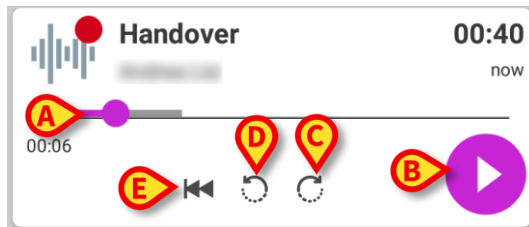
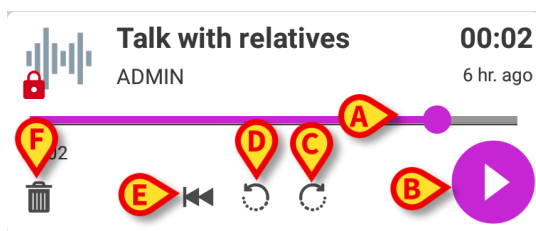
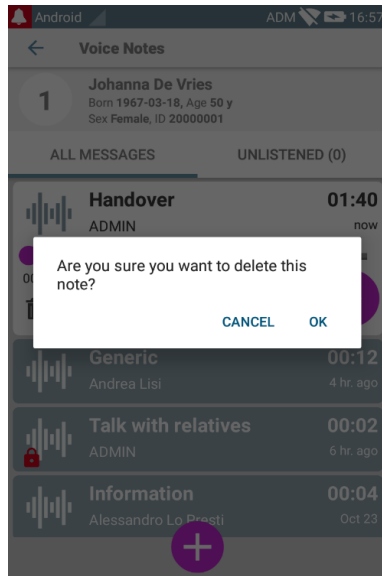

Fig 93 – unlistened voice message
Fig 94 - private message, deletable by the author
Fig 95
The tile expands to show the audio player control buttons (Fig 93 and Fig 94).
- seekbar (Fig 93 and Fig 94 **A**): touch the thumb and drag left or right to set the current progress level;
- play the message (Fig 93 and Fig 94 **B**);
- skip 10 seconds forward (Fig 93 and Fig 94 **C**);
- skip 10 seconds backward (Fig 93 and Fig 94 **D**);
- go back to the beginning (Fig 93 and Fig 94 **E**);
- delete the message (optionally shown - Fig 94 **F**).
- ❖ A confirmation icon ✓ (in the same place of the symbol Fig 94 **F**) if present, makes it possible to mark the note as “listened”. Touch the icon to mark the note as “listened”;
Voice messages are automatically deleted after their life time. Deleted messages are not recoverable. Only the author is allowed to delete his/her messages before the expiration time, by clicking on the icon , situated in the expanded message view (see Fig 94). This operation requires a confirmation (Fig 95):